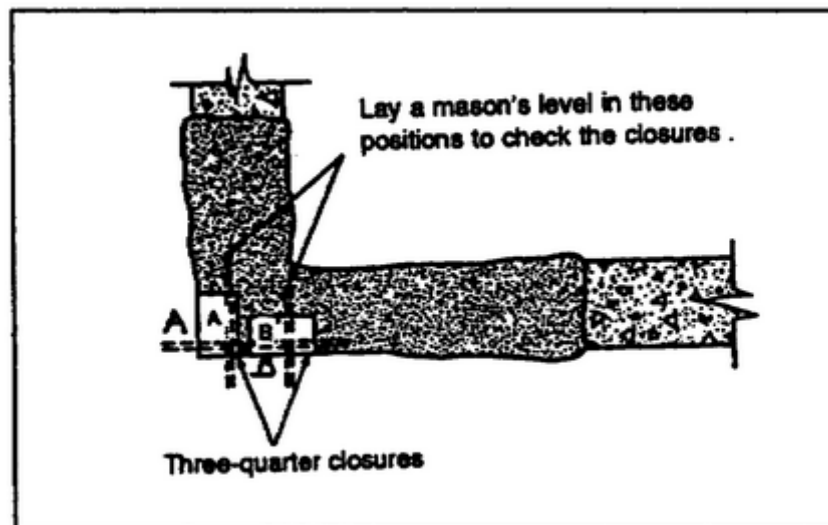

Figure 3-19. Laying three-quarter closure bricks
b. Second Step. As shown in Figure 3-19, cut and lay two three-quarter closure bricks. Press the closure brick marked A down into the mortar bed until it makes a bed joint 1/2 inch thick. Next spread the mortar on the end of the closure brick marked B and position it to form a 1/2-inch-thick head joint with the closure brick marked A. Check the level of the closure bricks by using a level at the points indicated by the heavy dotted lines. The edges of the closure bricks must be even with the outside face of the foundation.